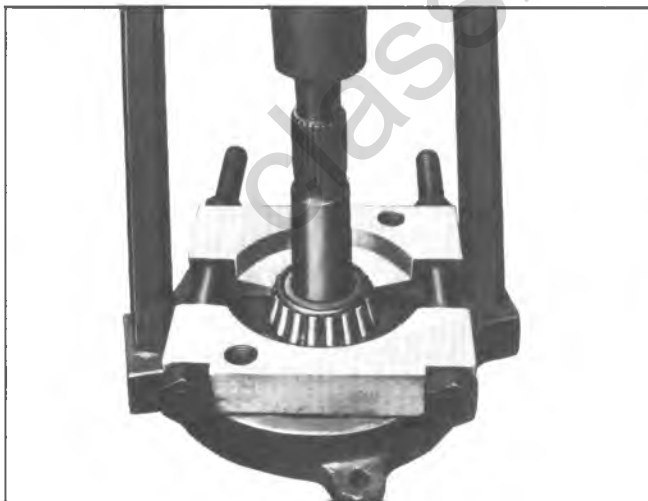

Fig. 15A—Removing Drive Pinion Rear Bearing.
3. Remove rear pinion bearing from pinion shaft using Press Plate J-22912. See Figure 15A.